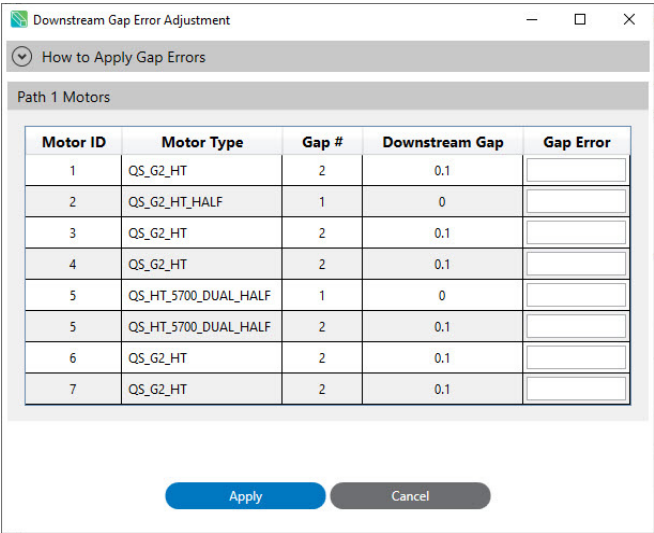

Figure 4-39: Downstream Gap Error Adjustment Window
*The Downstream Gap Error Adjustment window that is shown in Figure 4-39 appears. The **Downstream Gaps** for all motors on the path are displayed.*